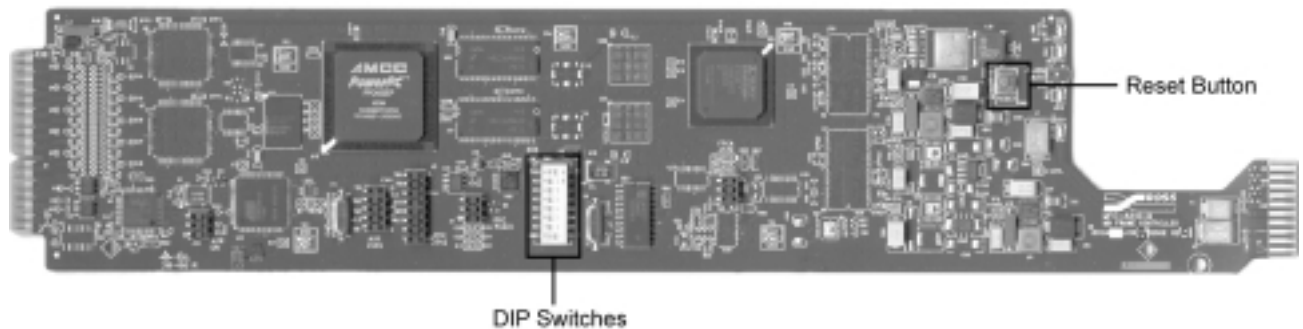

Figure 13. MFC-8310-N DIP Switches
1. On the MFC-8310-N card, set DIP\_8 to **ON**. Refer to Figures 13 and 14 for DIP Switch locations.